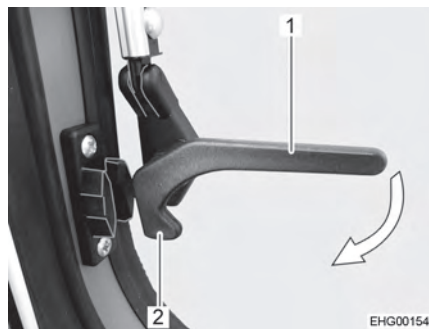

Fig. 38 Catch lever, on the side ("open" position)
- Turn the catch levers on the side (Fig. 38,1) a quarter turn towards the window frame until the locking catch (Fig. 38,2) engages.